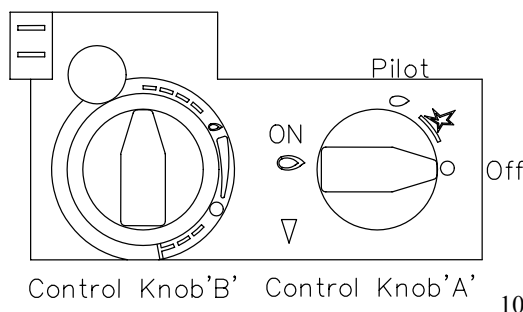

FIGURE 7
- d) If the appliance is to be left unattended for a long period (more than a weekend) Control Knob 'A' (see Figure 7) should be turned to the 'Pilot' or 'Off' positions. This to ensure that the receiver cannot respond to extraneous sound waves.
Lighting.(See Figure 7)